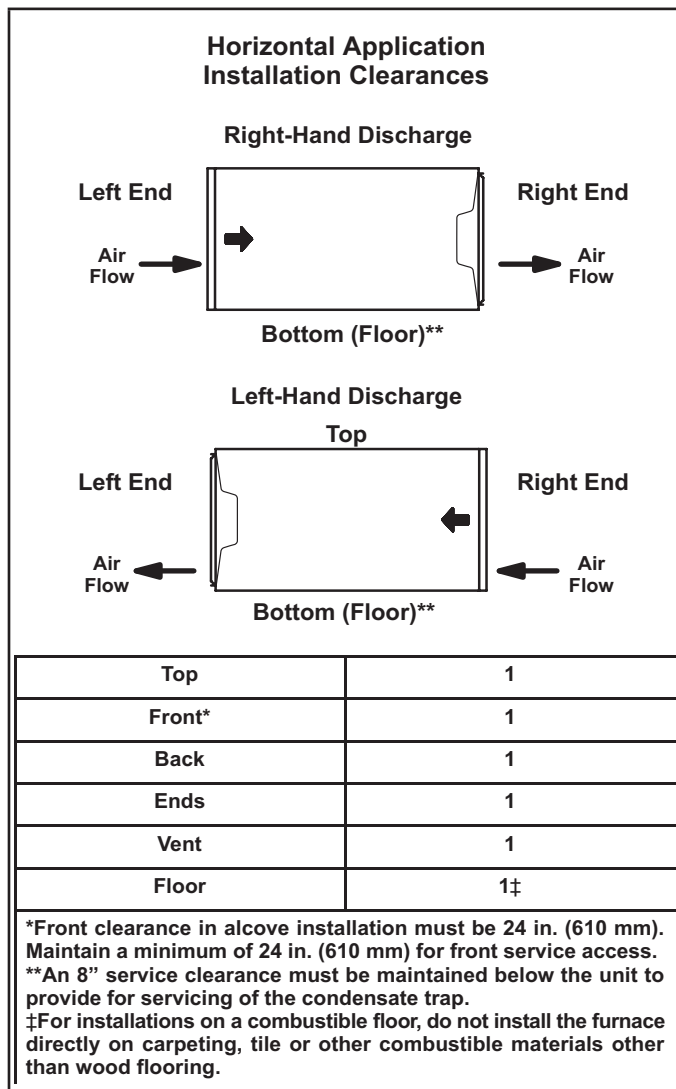

FIGURE 17
The EL195UHNE furnace can be installed in horizontal applications with either right- or left-hand air discharge. Refer to FIGURE 17 for clearances in horizontal applications
- 1 - Select location for unit keeping in mind service and other necessary clearances. See FIGURE 17.